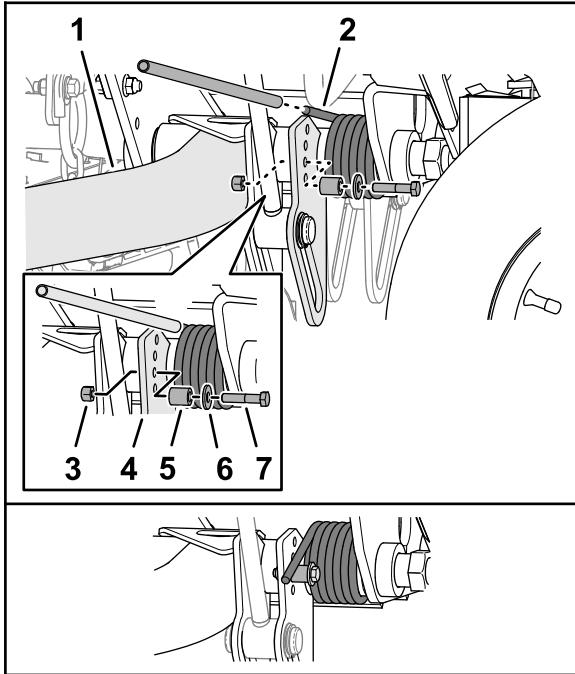

Figure 49
2. Insert a tube or similar object over the long leg of the spring, and lift the spring leg to relieve pressure on the spacer (Figure 49).
3. While holding the spring, remove the bolt, washer, and locknut from the lift plate (Figure 49).